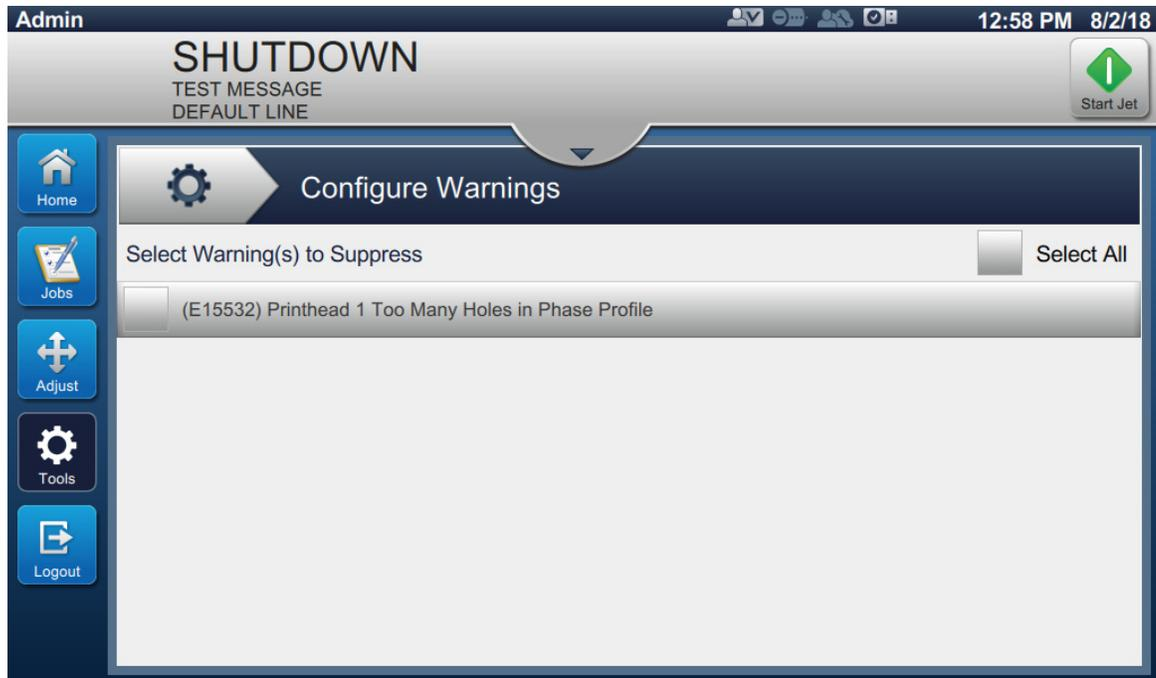

Figure 6-13: Configure Warnings Screen
1. Touch the  button from the Tools screen. The Configure Warnings screen is displayed as shown in Figure 6-13.